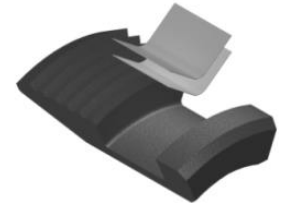

Fig. 5
**NOTE9:** Install two (2ea) springs per slip (Fig. 5).